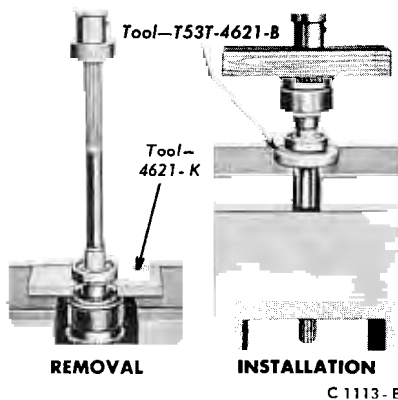

FIG. 8—Replacing Output Shaft Bearing
10. If the overdrive output shaft bearing is to be replaced use the tools shown in Fig. 8.